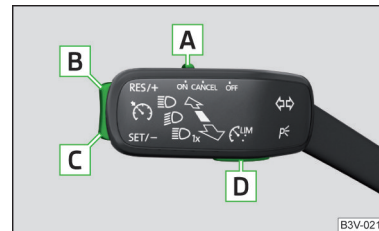

Fig. 198
#### Overview of the CCS controls » Fig. 198
- ▶ By pressing the button **D** » Fig. 198.
- By pressing the button **D** » Fig. 198 during the regulation this is cancelled and the Speed Limiter is activated.